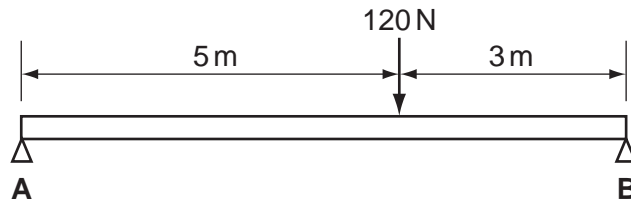

Fig. 5
- 8 Fig. 5 shows a simple beam supported at **A** and **B** with a load of 120 N at the point indicated.